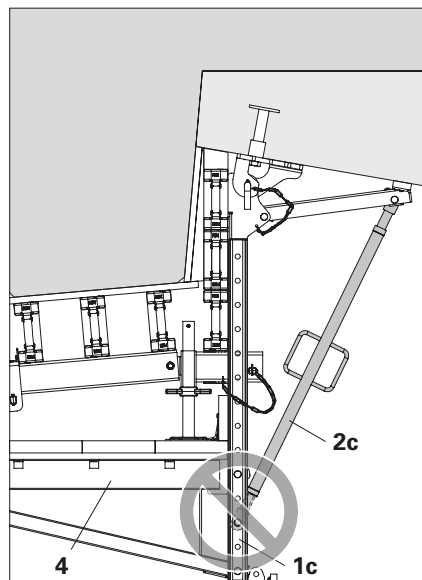

Fig. A4.03a
- Never attach Kicker Brace AV 140 (**2c**) between the fixing points of Platform Cantil. Beam VGK 170 (**4**). (Fig. A4.03a)